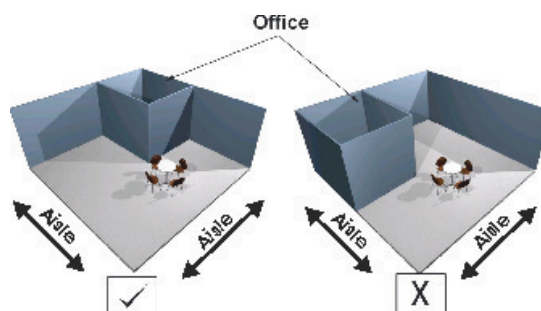

Figure 3
- Office enclosures/cabins must be located either along the wall, if any, at the rear side of the stand, or at the back along the adjoining wall of their neighbouring stand. Extension of office enclosures/cabins up to open aisles is not permitted. (see figure 3)